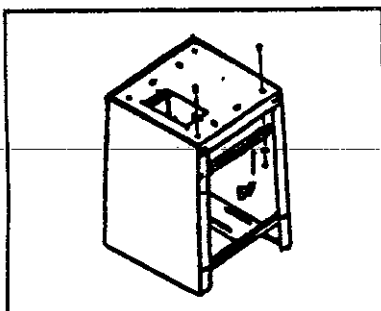
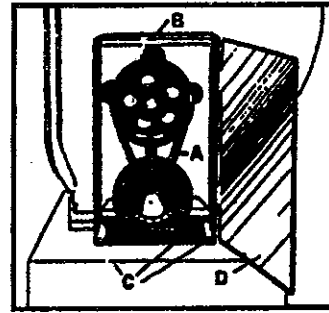

Fig. 6
Fig. 12
Please Remember to Tighten all screws and check that if the stand is firm enough. Fig. 6.
Place the belt and pulley guard(B) Fig. 12, on the top shelf over the belt opening. Use the four round head screws(C) to fasten in place. Place door(D) Fig. 6. on hinges.